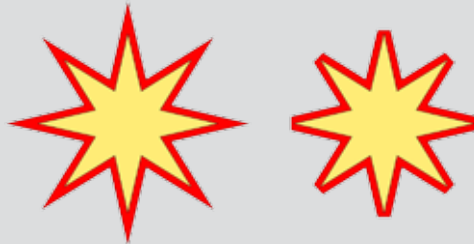

Fig. 64 - Two star shapes with outlines. The second star has an outline that has been clipped at 70%.
- ❑ **Miter:** Corners of shadow outline are clipped (See Fig. 64 for the *Miter Limit* description under *Outlines and Inlines* for an example)